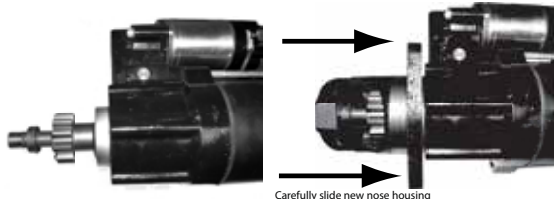
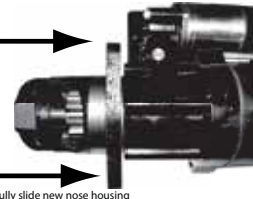

Fig 3
Fig 4
Step 3: (Fig 3) shows starter with nose housing removed. Place new nose housing onto starter shaft and slide onto starter. (Fig 4)